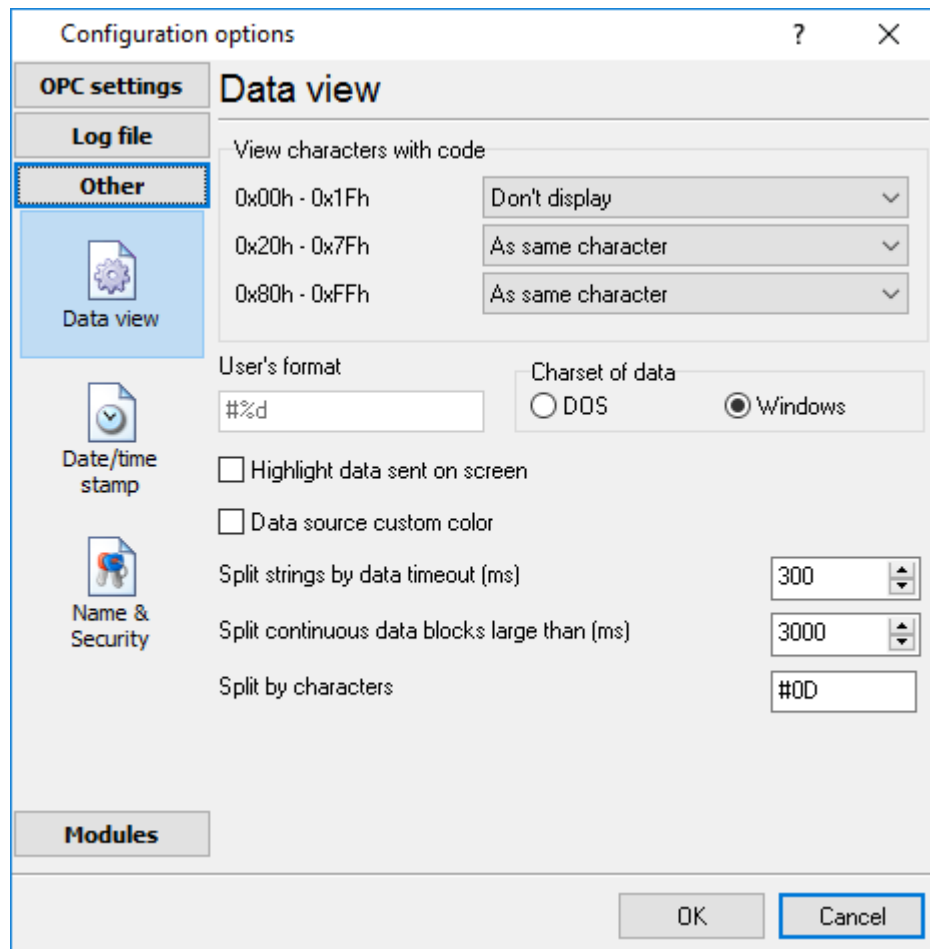

Fig. 3.1.1. Data view
The data in the main window (fig. 1.1.17) can be displayed in two modes (fig. 3.1.1):
8. **Split by characters** - this option allows to visually splitting continuous data flow in the program window using the specified symbols. For example (fig. 3.1.1), the program will use a character with the 0Ah hexadecimal code that is equal to the "LF" ASCII code.